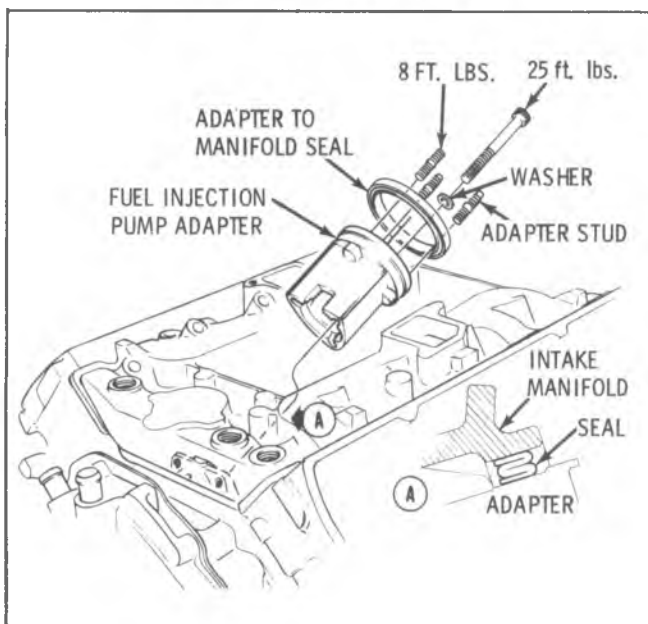

Fig. E-19—Injection Pump Adapter Bolts
7. Torque adapter bolts to 25 ft. lbs. (Fig. E-19)